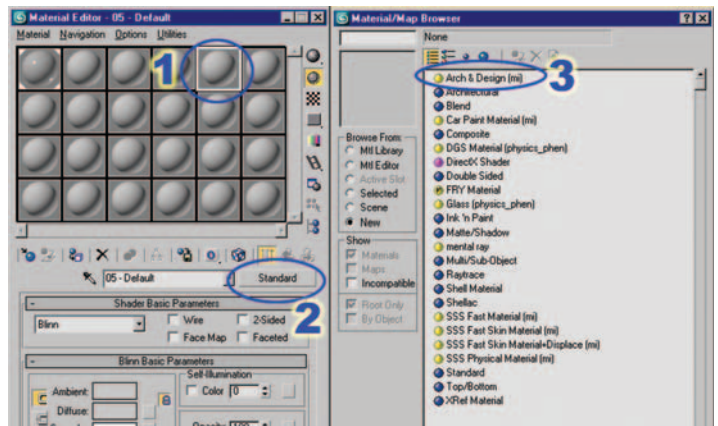

Figure 11.49 Material Editor with options highlighted.
- Click the Standard button and select Arch & Design (mi) from the list of shader types. Figure 11.49 shows the options highlighted in the Material Editor.